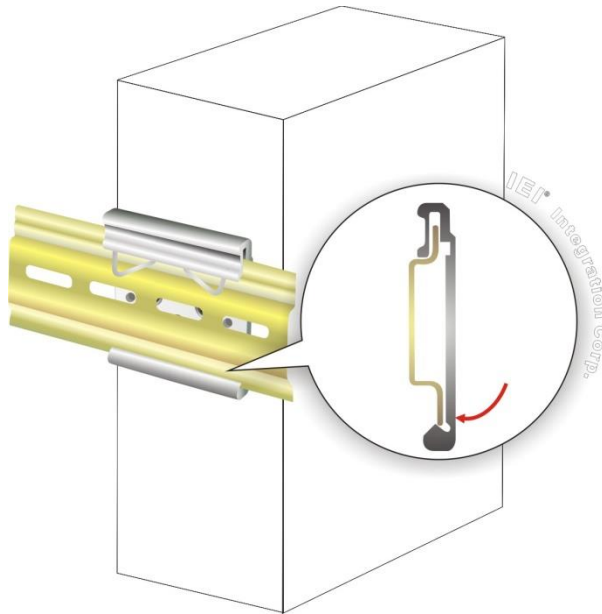

Figure 3-28: Mounting the System
**Step 3:** Push the system toward the DIN rail until the mounting bracket clips into place firmly (**Figure 3-28**).